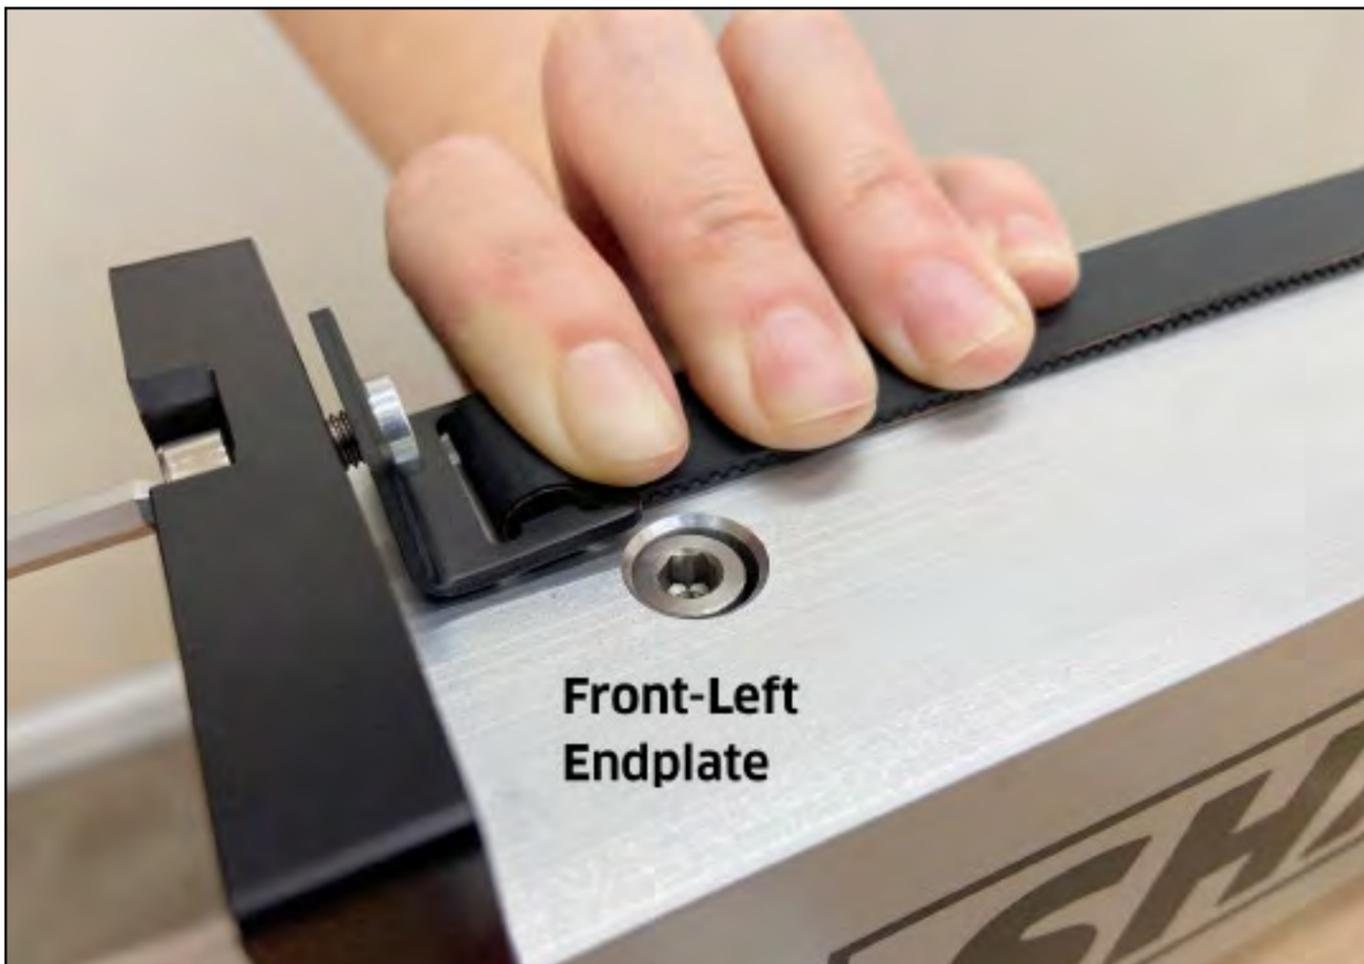

Figure 4-8
7. Adjust the length of the belt so that there is a 2–3mm gap between the clip and the front-left endplate. **See Fig. 4-8.**
8. Use a 4mm hex key and one (1) M5×12mm SHCS to secure the clip to the endplate.